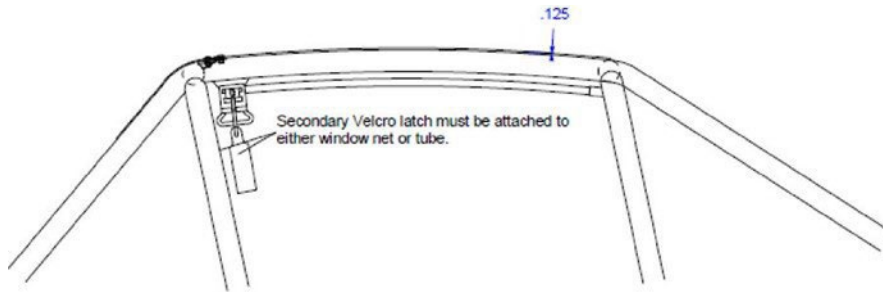

Figure 3 Upper Net Mount
- Window net latch must also utilize a secondary Velcro strap. Strap must be red and measure a minimum of 3 inches x 1 inch. Velcro strap must be sewn to net or bolted/riveted to cage and bolted to latch handle. See diagram on FIG 3